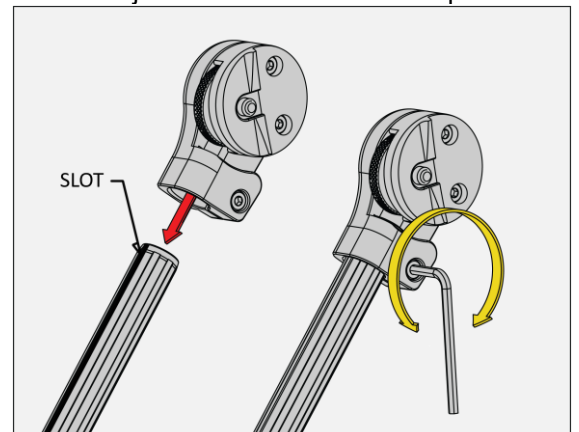

Figure 2: Assembling EVF mount part.
**CAUTION:** don't tighten clamping bolt (L) without a 15mm rod inserted.
Please insert the 15mm rod (J) in the EVF mount part (F) and align the slot as shown in "figure 2". When the rod is fully inserted and aligned please tighten bolt (L) using a metric hex-key 3mm. Rotate the hex-key clockwise to tighten and counter-clockwise to loosen the bolt.